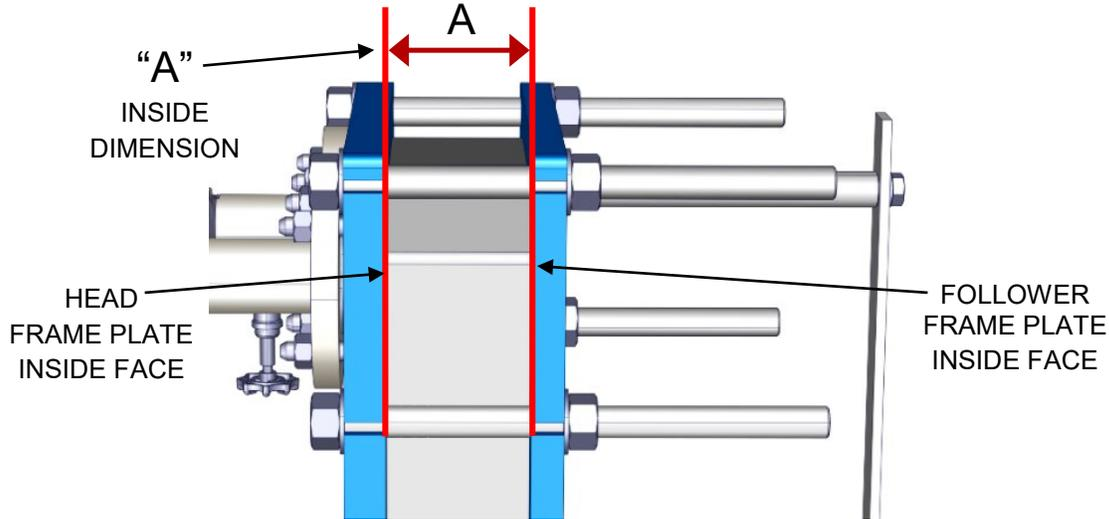

FIGURE 4-1: Critical Dimension “A”
IMPORTANT! The distance between the inside faces of the Follower frame plate and the Head frame plate (“A” in Figure 4-1) is listed in the service contract. If unavailable, then carefully measure and record it before disassembly, as this dimension is critical for proper reassembly.
6. Clean the exposed threads of the ten clamping bolts (Figure 4-1) and grease them.
5. Tightening is complete when the distance between the inside faces of both Follower and Head frame plates equals the "A" distance as shown in the datasheet or measurement (see Figure 4-1). This tightening distance can also be calculated using the following formula: Assembly distance = No. of plates x (plate thickness + coefficient) the coefficients vary depending on the model type. If in doubt, please check with the relevant DHT Sales Office.